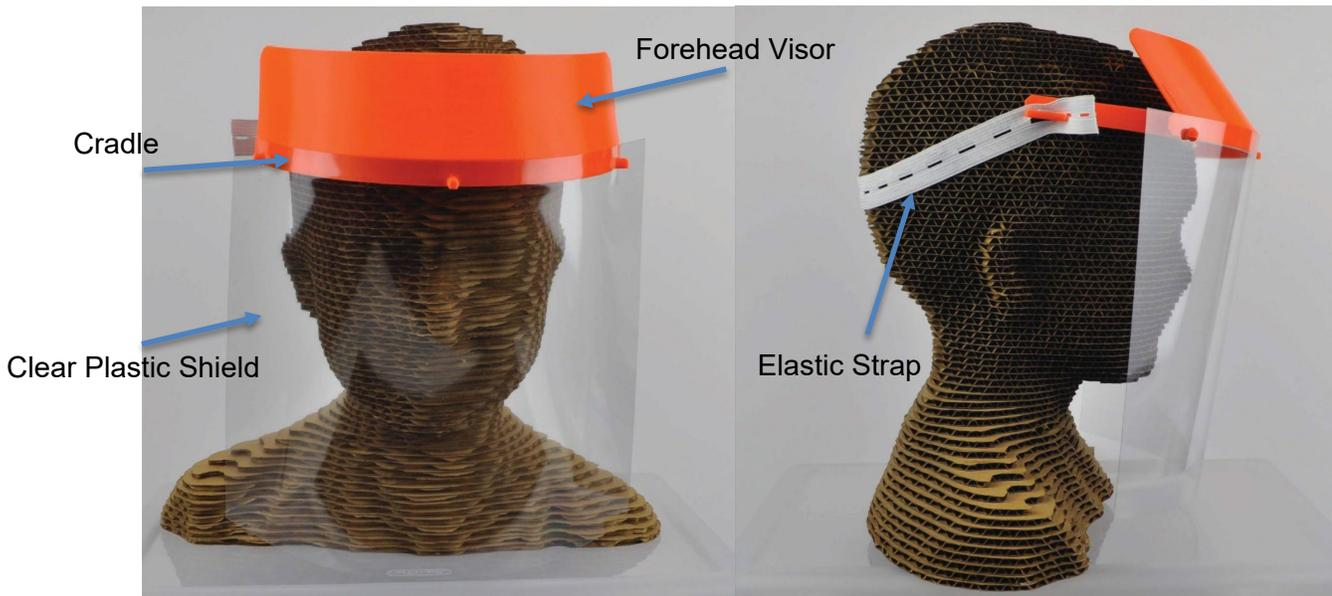

Fig. 1: a DTMv3 headband
This supplementary face shield consists of four (4) components: the shield, the cradle visor, the cradle band, and an adjustable elastic strap. A diagram of the DTMv3 components is shown below in **Fig. 1**. In our device the cradle is produced by connecting the cradle visor to the cradle band.
13. Do a final inspection of the mask with all components assembled to ensure nothing is damaged and everything has been assembled properly as shown in **Fig. 1** above.